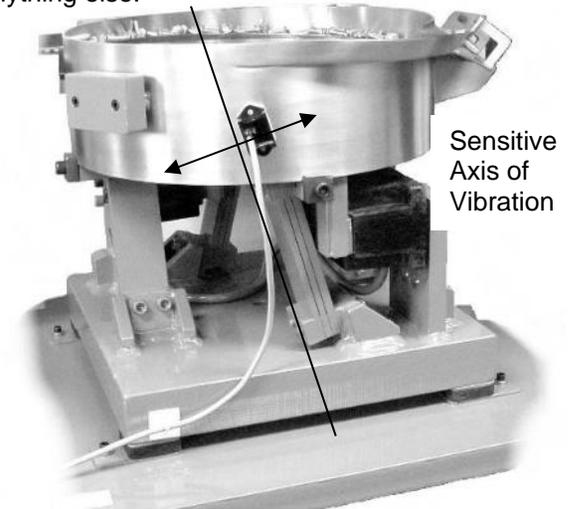

Fig. 2 The arrow shows the direction of vibration which is at a right angle to the spring pack.
A. ORIENT THE SENSOR so that its sensitive axis is in the same direction as the vibration of the feeder. The arrow in figure 1 shows the sensor's sensitive axis. Align the sensitive axis of the sensor in the same direction as the vibration (see figure 2). The sensor must be oriented correctly for proper operation.
Use a cable tie and an adhesive-backed mount to attach the sensor cable to the side of the drive base. See Figure 2. Clean the mounting area before applying the adhesive-backed mount.